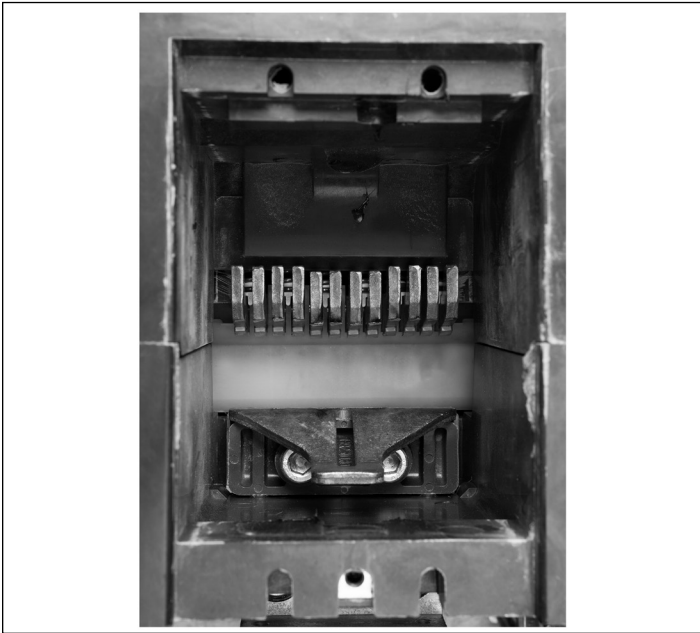

Figure 84. Primary contacts with circuit breaker open (not used for contact wear inspection)
1. With the arc chutes removed, look directly down into the arc chamber (**Figure 84**), and visually inspect each primary contact structure for signs of wear and/or damage.